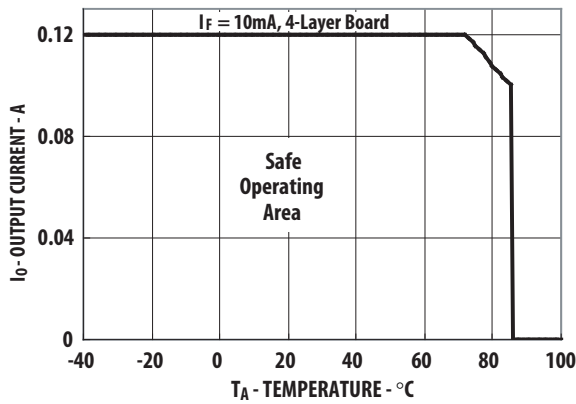

Figure 1. Maximum Output Current Rating vs Ambient Temperature (ASSR-4110-003E)
- For derating, refer to Figure 1, 2, 3 and 4.
Figure 1, 2, 3 and 4 specify the maximum average output current allowable for a given ambient temperature. The maximum allowable output current and power dissipation are related by the expression  $R_{ss}=P_o(max)/(I_o(max))^2$  from which  $R_{ss}$  can be calculated. Staying within the safe area assures that the steady state MOSFET junction temperature remains less than 125°C.